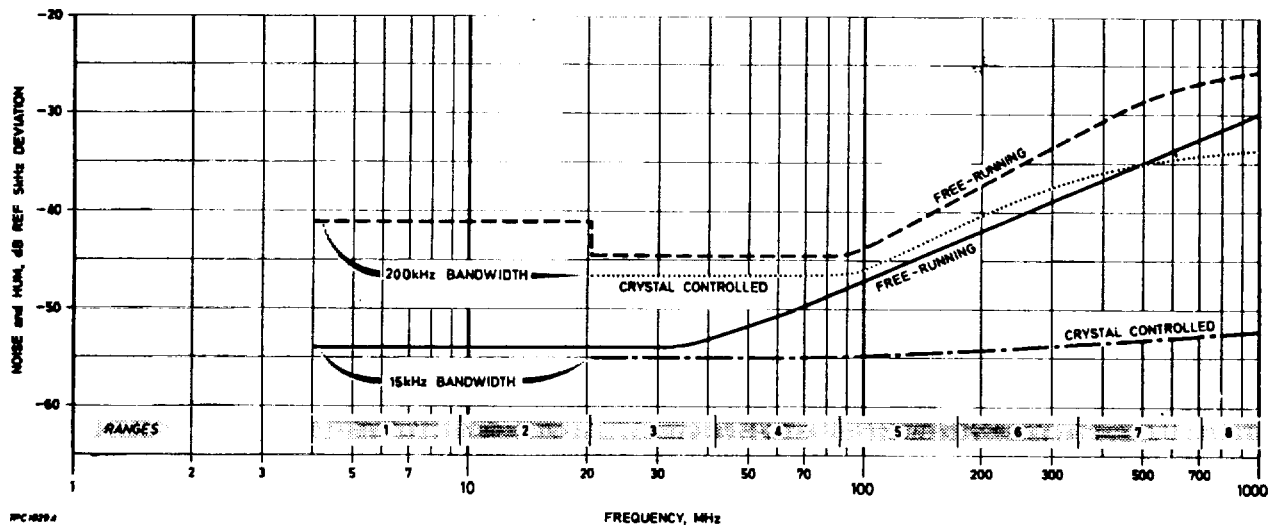

Fig. 2-4. Typical modulation meter noise levels
- (2) The output of the modulation meter is 0. 775 V into 600 n for full-scale deflection on the internal meter.
- (3) For measurements in the r. f. range 22 MHz to 1000 MHz the local oscillator must be crystal controlled if lowest possible internally generated noise is required. Thus, a crystal suitable for the appropriate frequency must be available. This is not a requirement below 22 MHz, where the internal noise of the oscillator is sufficiently low to make crystal control unnecessary.
- (4) The curves given in Fig. 2-4 show typical noise levels produced by free-running and crystal controlled oscillators over the r.f. range of the instrument. In the 15 kHz bandwidth, below 70 to 100 MHz, there is insignificant difference in respective noise levels. Above 100 MHz, however, the noise level free-running increases progressively with frequency, whereas under crystal control the level remains nearly constant. The necessity to use crystal control depends on the noise level of the equipment under test and, as shown by the curves, the band-